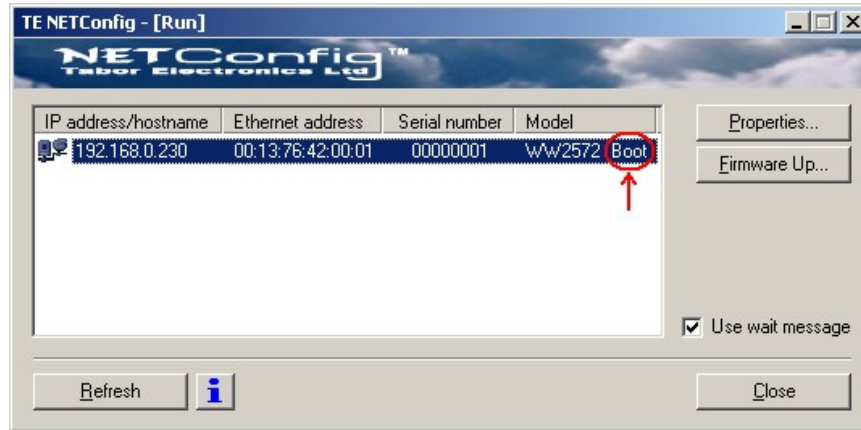

Figure 7-6, WW2572 has been Detected on the LAN Network
5. As soon as the progress bar reached the far right hand of the bar, click on the Refresh button. If your device was connected and booted correctly, the device address will appear in the device list, as shown in Figure 7-6.